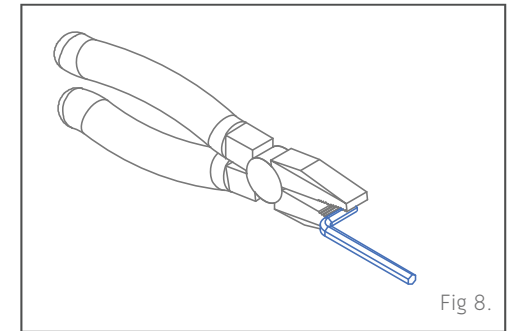

Fig 8.
- Insert allen key and tighten. To firmly clamp ball and socket together the use of vice grips or pliers may be required to turn allen key. (Fig 8.)